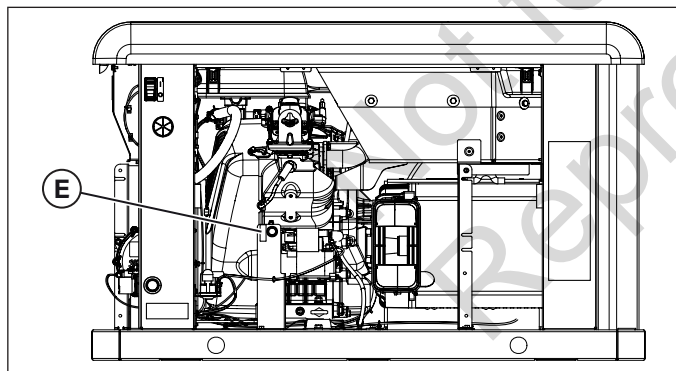

Figure 13
10. Find the fuel selector switch (E) in the engine compartment. See Figure 13.